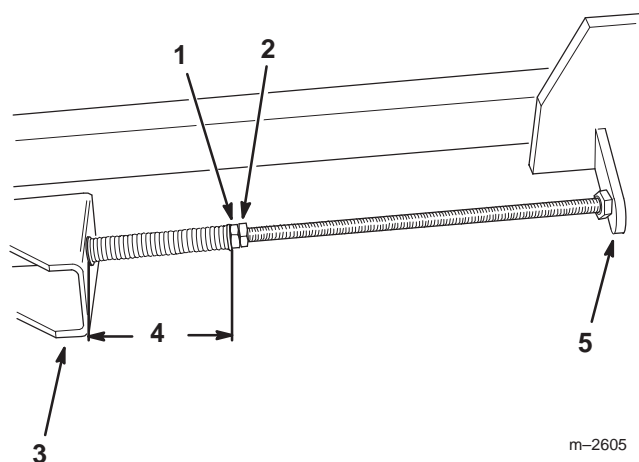

Figure 7
8. Insert the spring end of the adjusting shaft into the hole in the deck mounting bracket. Note that the small end of the bushing fits into the hole in the deck bracket. Insert the locknut end of the adjusting shaft into the carrier frame mounting tab (Fig. 7).
9. To tension the belt, tighten the front jam nut on each adjusting shaft until the springs are completely compressed (approximately 4-3/4" or 12 cm, measured between the washer and the bushing), then back the front jam nuts off one turn (Fig. 7).
IMPORTANT: Don't overtighten the jam nuts after the springs are fully compressed, as this can damage the drive belt (Fig. 7).
10. Tighten the rear jam nuts (Fig. 7).